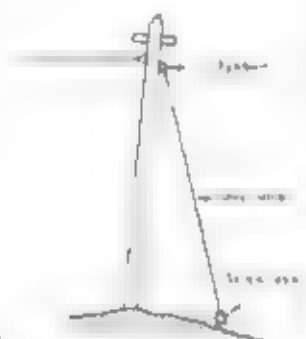

Fig. 12
4. In the event that the pull of the trolley wire (on curves especially) is enough to bend poles inward, you may have to add a guy wire as shown in fig. 12. This is simply a wire attached to an eyebolt near the top of the pole and anchored to a small screw eye in your table-top or framework. Tighten the wire enough to pull the bend out of your pole.